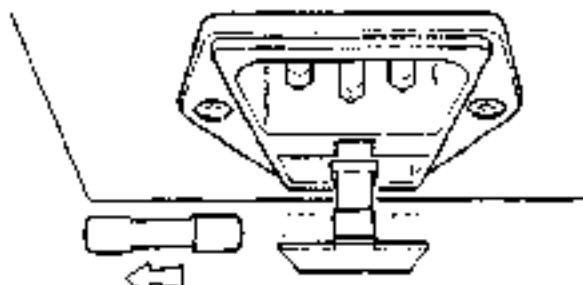

Figure 16. Electronic Module Fuse Replacement
Using a small screwdriver, open the fuse drawer below the power socket on the rear of the module (Fig. 16). Remove the fuse and fit the spare fuse. The fuse must be IEC 127 approved ceramic type 250V 2A (T). Re-install the module into the base station, power up the system. Is the base station green indicator illuminated?